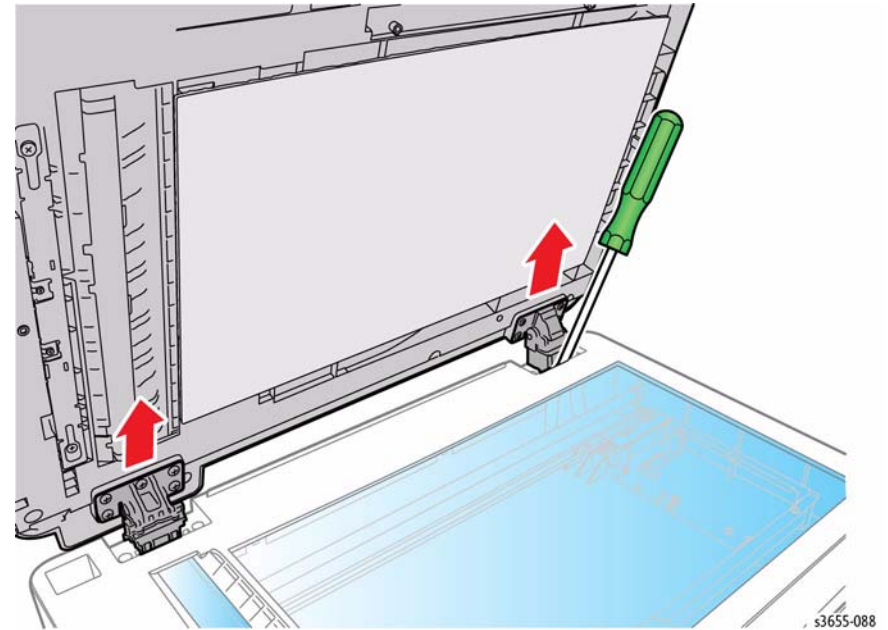

Figure 3 Release the DADF Hinge
11. Refer to Figure 3 and lift the DADF to expose the hinges. Using a small, flat-bladed screwdriver, release the hook located on the front of the right hinge to remove the DADF.